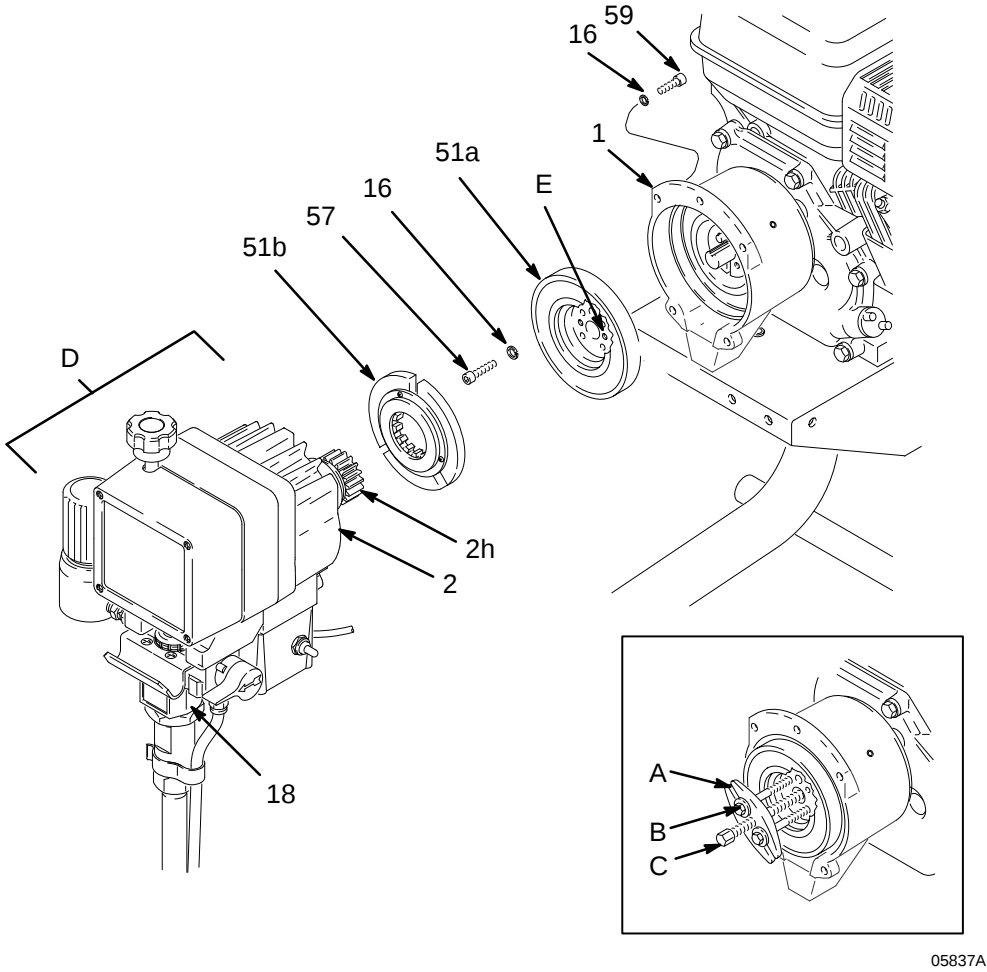

Fig. 2
NOTE: Refer to Fig. 2 for this procedure.
Examine the splined hub (2h, Fig. 2) for wear. Replace as needed. Follow the Pinion Housing instructions, page 24, Manual 308–620.
- a. Remove the four socket head capscrews (57) and lockwashers (16). Install two of the screws in the threaded holes (E) in the rotor. Alternately tighten the screws until the rotor comes off. See Fig. 2.
- b. You can use a standard steering wheel puller (A). However, two 1/4–28 x 3 or 4 in. long screws (B) are also needed. Replace the short screws of the steering wheel puller with the longer screws (B). Turn the screws (B) into the threaded holes (E) of the rotor (51a). Tighten the capscrew (C) of the tool until the rotor comes off. See the Detail in Fig. 2.